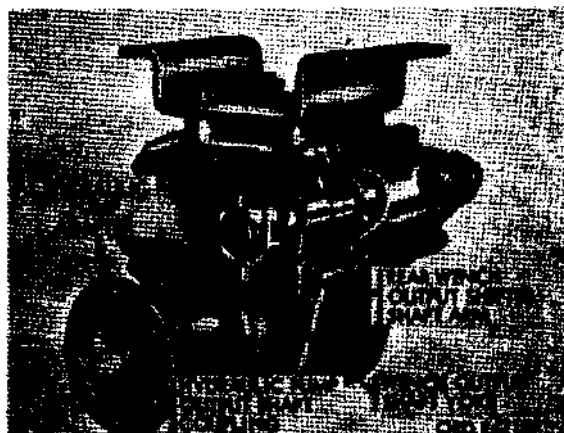
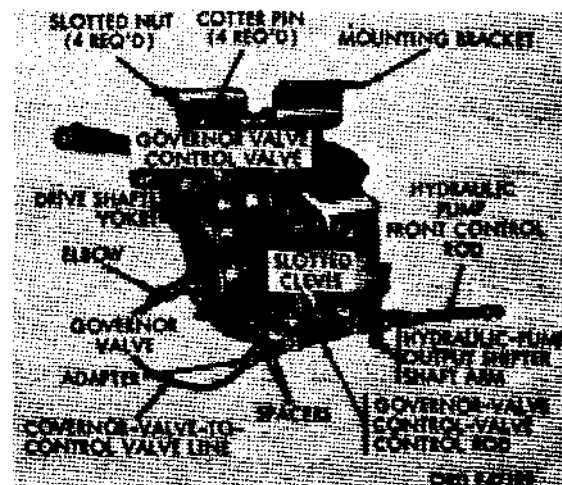

Figure 398. Rear view of power divider removed from vehicle
Figure 411. Front view of power divider removed from vehicle
b. Hydraulic Pump and Relief Valve. The flange-mounted vane-type hydraulic pump (fig. 397) is bolted to the hydraulic pump adapter (fig. 398) mounted on the rear of the power divider. The hydraulic pump output shaft coupling (fig. 398) is keyed to the power-divider output shaft and to the hydraulic-pump shaft. The adjustable relief valve assembly (fig. 397) is connected to the hydraulic pump outlet port. The purpose of this valve is to protect the crane hydraulic system from excessive (above 1200 psi) pump pressures.
q. Power Divider Assembly. The power divider assembly (figs. 398 and 411) is a single speed gear box with one input (drive) shaft and two output shafts. It is mounted by a bracket to the bottom of the hydraulic reservoir (fig. 397). The drive shaft yoke (fig. 411) is connected by a propeller shaft and universal joint to the power takeoff mounted on the rear of the transfer. The winch output shaft yoke (fig. 398) is connected by a universal joint to the front end of the rear winch front propeller shaft. The hydraulic pump output shaft is connected by a coupling (fig. 398) to the hydraulic pump input shaft. When the hydraulic pump control lever is in the DISENGAGE position, the air passages inside the governor-valve control
(G, fig. 417). The rear end of the rear control rod is connected to the lower end of the control lever (fig. 418) by a yoke and pin. The front end of the rear control rod is connected to the left lever of the relay lever assembly by a yoke and pin. The rear end of the front control rod is connected to the right lever of the relay lever assembly by a yoke and pin. The front end of the front control rod (fig. 411) is connected to the pump-output-shifter-shaft arm and to the rear end of the governor-valve-control rod. The front end of the governor-valve-control rod is connected to the valve lever (U, fig. 417).